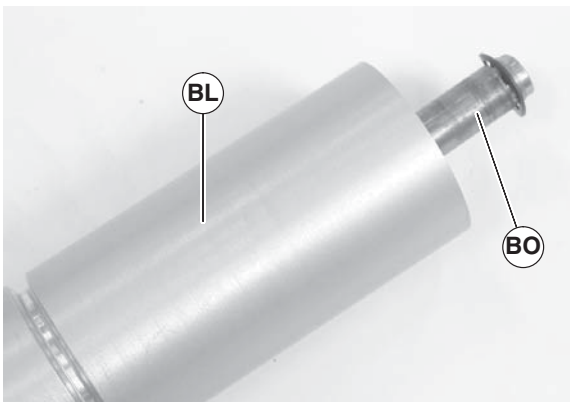

Figure 58
6. Slide the shaft assembly (Figure 58, item BO) out of the pulley (BL).